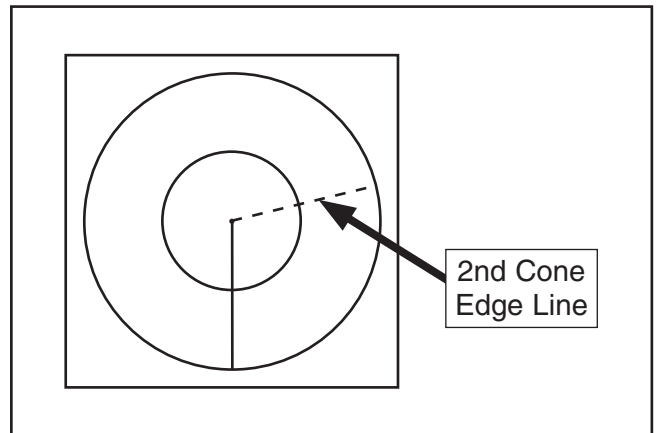

Figure 47. Straight line from center to large circumference mark.
9. Mark straight line from center point mark to outer circle mark from **Step 8** (see **Figure 47**).